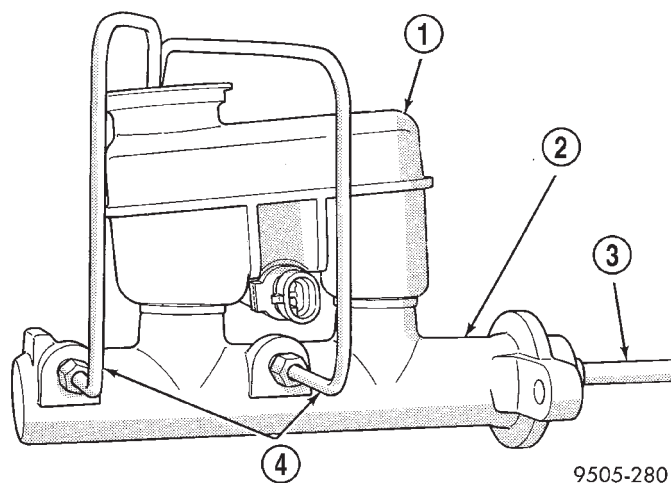

Fig. 38 Bleeding Master Cylinder
(2) Fill brake fluid reservoir with brake fluid conforming to DOT 3 specifications such as Mopar or an Equivalent.
(3) Using a wooden dowel per (Fig. 38). Depress push rod slowly, and then allow pistons to return to the released position. Continue to repeat this step several times after no more air bubbles are expelled from bleed tubes to ensure all air is bled from the master cylinder.